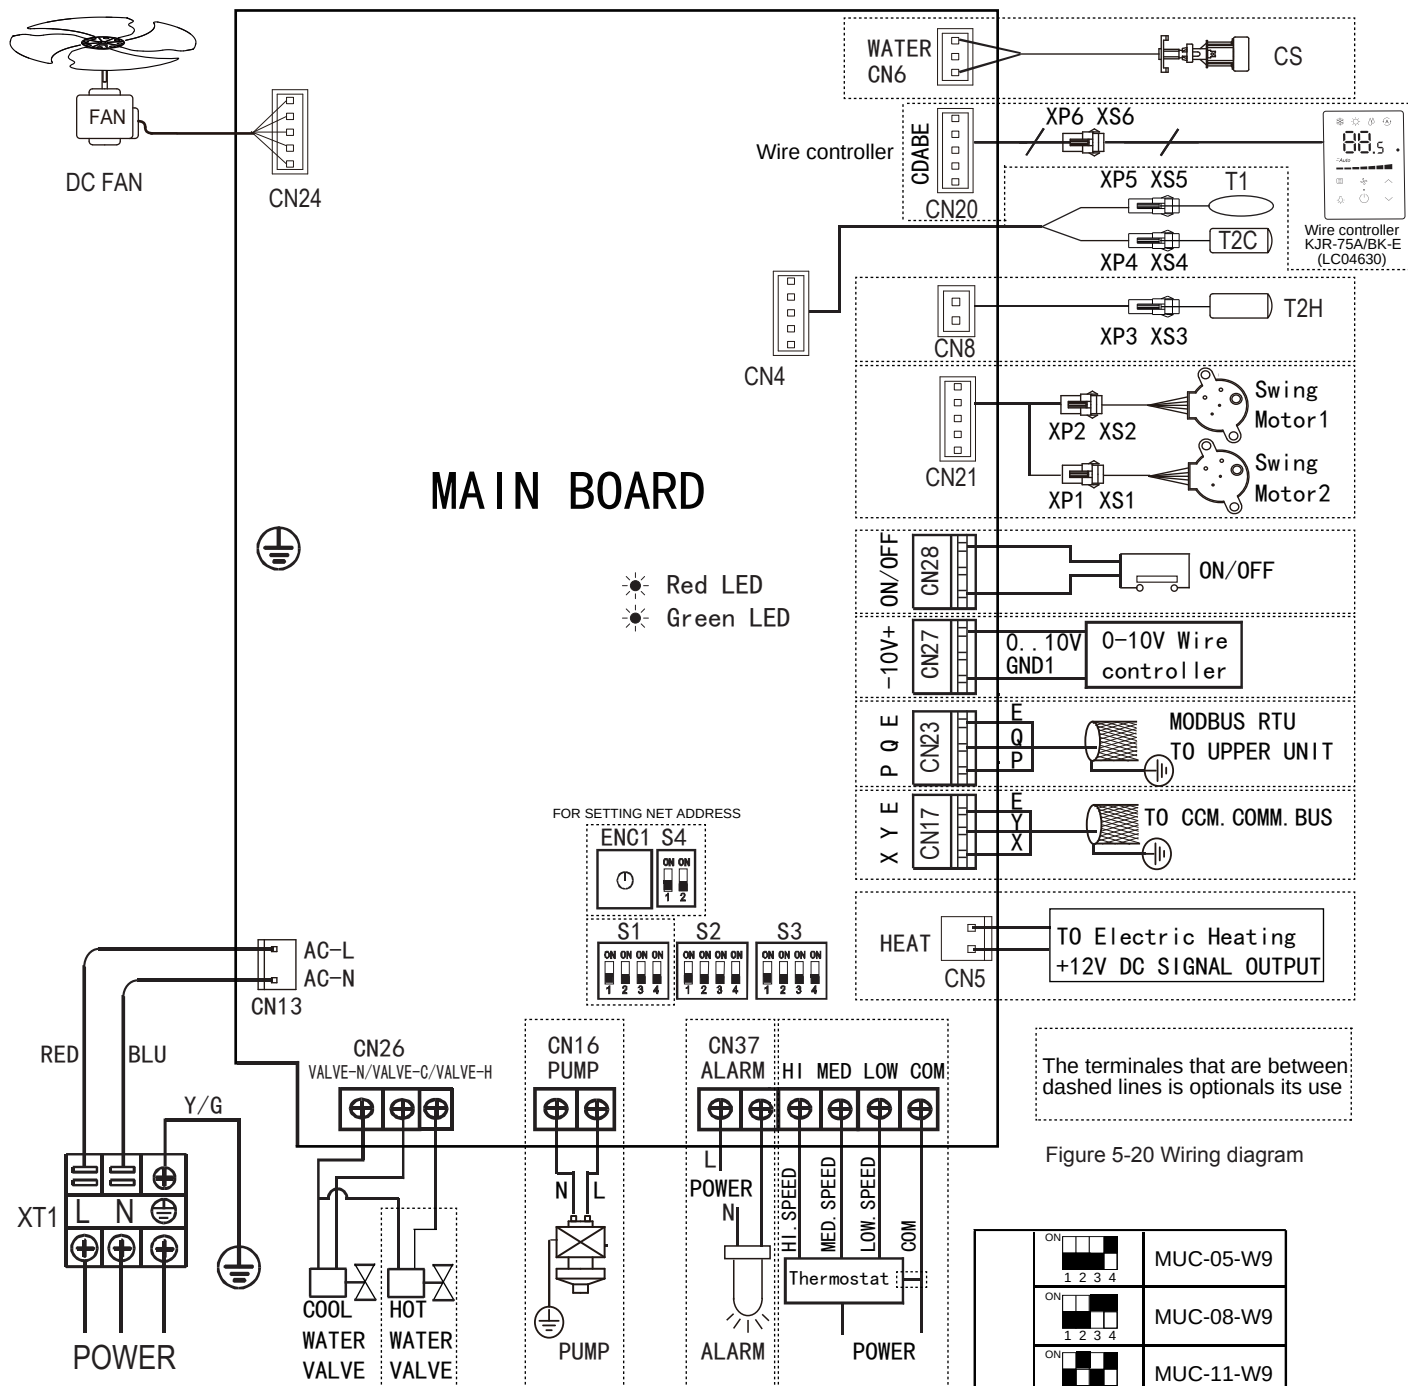

Figure 5-20 Wiring diagram
- Perform electrical connections according to the wiring nameplate (Figure 5-20) of the unit.